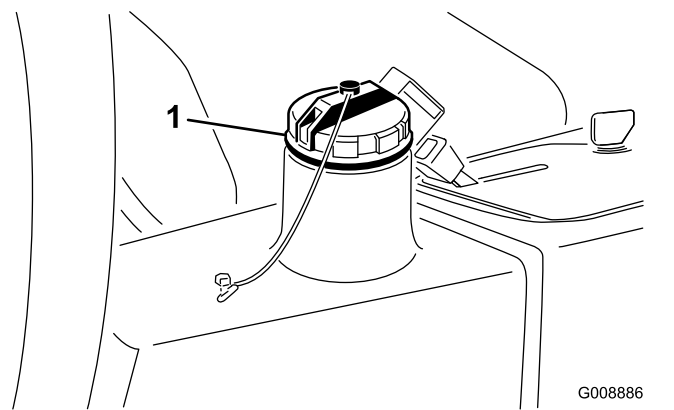

Figure 81
4. Fill the reservoir (Figure 81) with approximately 13.2 L (3.5 US gallons) of hydraulic fluid; refer to Checking the Hydraulic System \(page 23\).